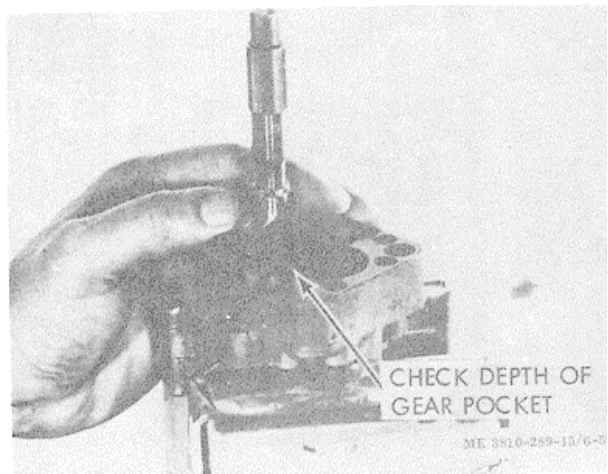

Figure 3-60. Gear pocket depth check.
(3) Check gear housing and cover for scoring or wear; replace as needed. Check gear pocket depth (fig. 3-60 and table 2-2).
(4) Shaft bore in cover and housing should be 0.5013/0.5016 inch I.D. If gears are removed from shaft, press gears on shaft 0.680/0.690 inch from housing end of shaft. Oil shaft before assembly.
(5) Check lubrication holes in cover and housing they be clean.
(6) Clean cooling kit components, if used, and dry with compressed air.